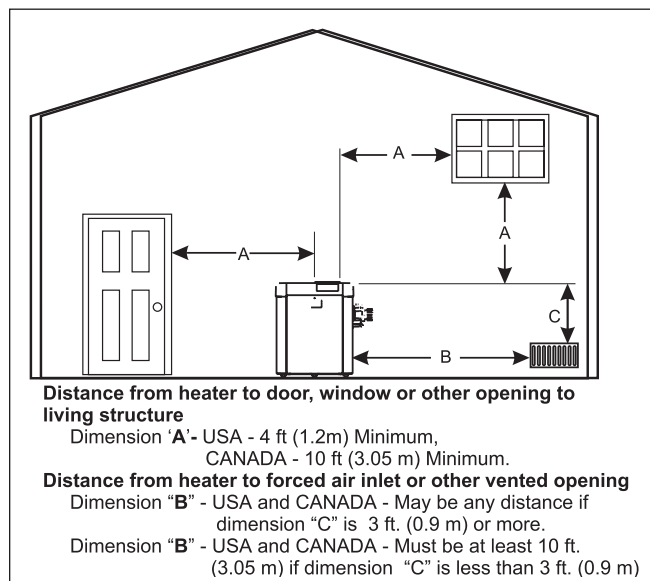

Figure 3. Outdoor Heater Installation
horizontally from, or 1 ft (300 mm) above any door, operable window, or gravity inlet into any building. In Canada, the heater must be installed so that the exhaust point of the heater is at least ten (10) feet (3.0 m) from any building opening (see Figure 3).